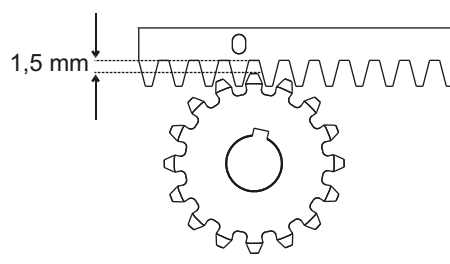

Fig. 12
6.6. Set the rack 1.5 mm higher to avoid the gate weight loading on the pinion (Fig. 12),